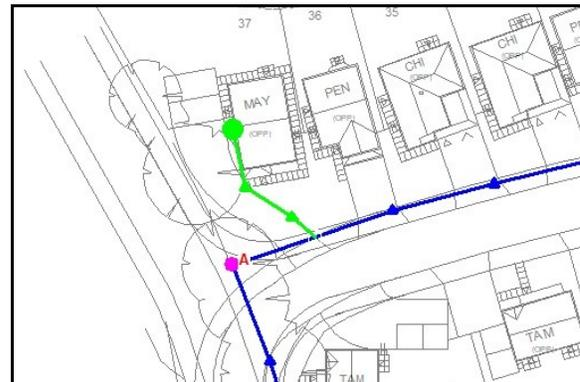

Figure 4
Enter the first customer as a polyline customer service. In this case, the service to Lot 37 will be entered as a polyline type service as shown on Figure 4.
- For the *Next Vertex* prompts, draw the service line by moving the mouse crosshairs to the appropriate deflection points (vertices) and the meter location, then left-click the mouse (see Figure 4). After the meter location has been entered, right-click the mouse to end the drawing process.